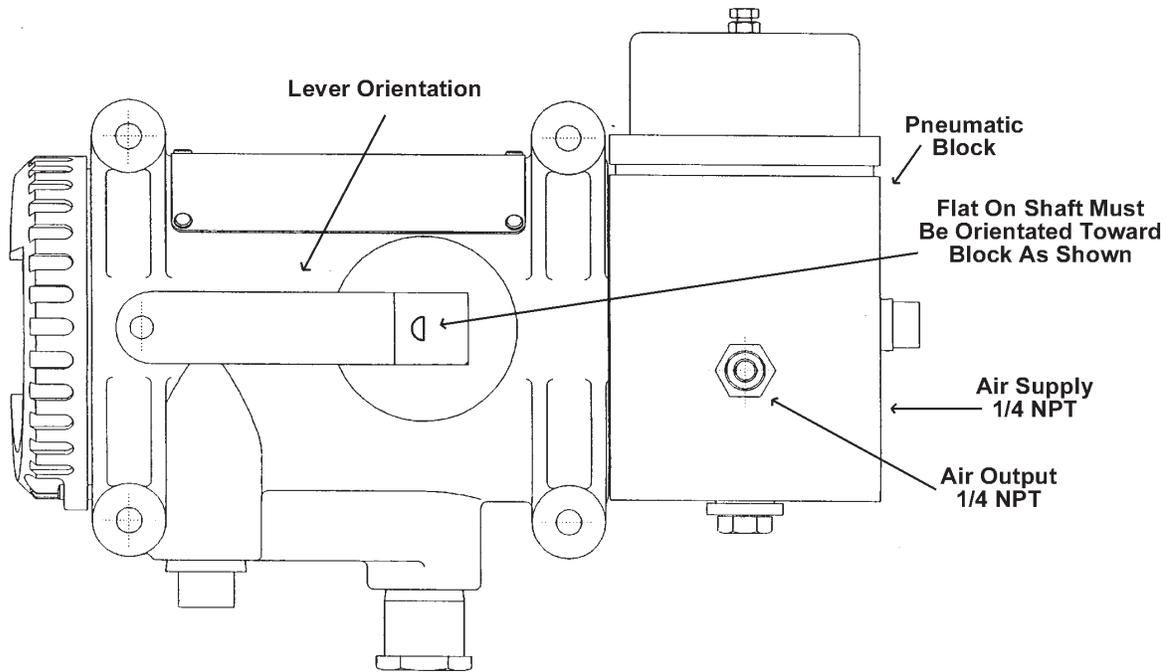
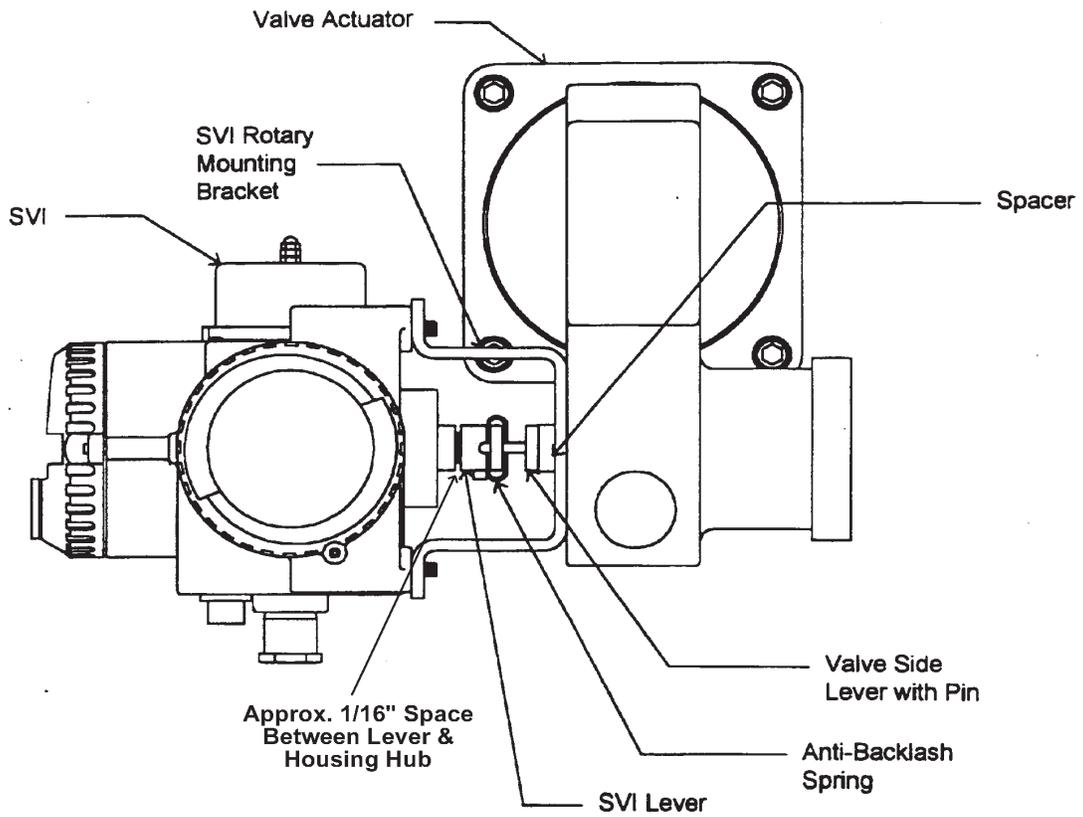
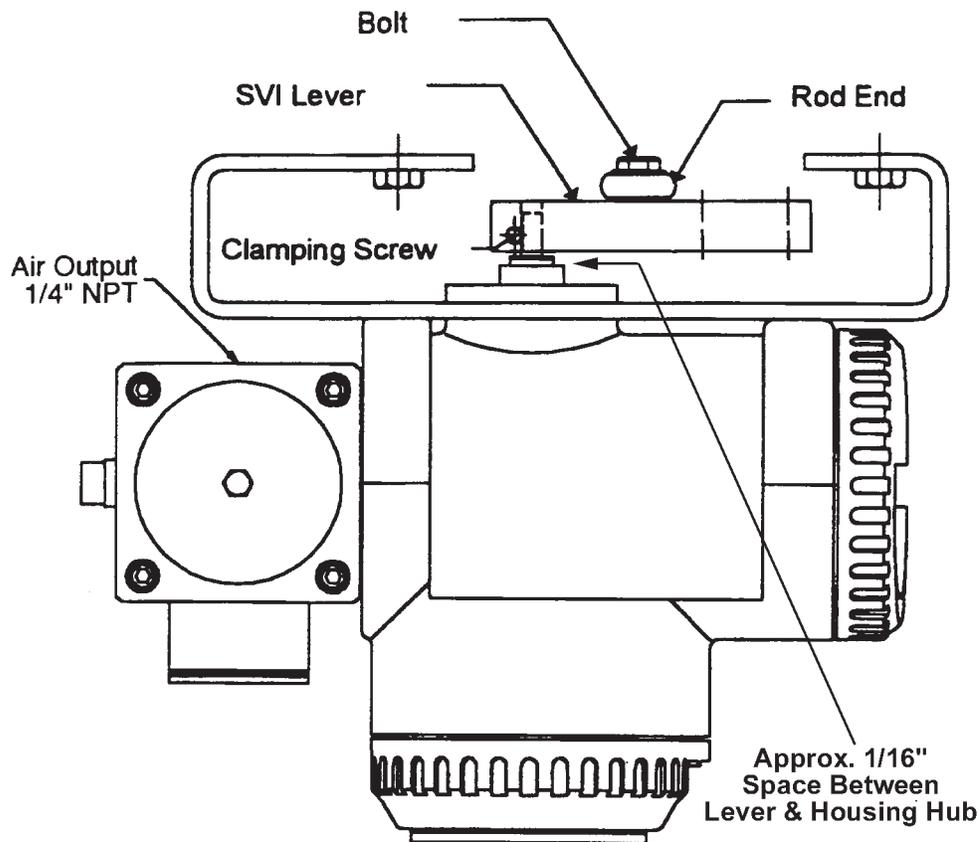

Figure 14. Orientation of SVI Lever and SVI Shaft
Figure 15. SVI Mounting on Rotary Valves
Figure 16. Top View of SVI Mounted on a Reciprocating Valve
3. Clamp the SVI lever to the SVI shaft. The flat on the SVI shaft must always face the pneumatic block with the lever orientated facing the cover as shown in Figure 14. When using a standard lever, the orientation of the lever to the SVI is set by clamping screw location relative to flat on shaft. Leave approximately 1/16 space the SVI housing and back of lever. See Figure 15.
4. Loosely assemble the SVI to the mounting bracket using only the two top 1/4 - 20 UNC socket-head cap screws. Pull the SVI away from the actuator to allow the pin on the valve side lever to be inserted into the slot in the SVI lever under the anti-backlash spring. See Figure 15. Assemble the two bottom bolts and securely tighten all four bolts.
1. Mount the SVI mounting bracket to the actuator using two (2) 5/16 - 18 UNC cap screws. Unless otherwise specified, the SVI mounting assumes that the actuator is in the normal upright position. The slotted opening of the mounting bracket is to be to the left when facing the actuator.
2. Clamp the SVI lever to the SVI shaft. The flat on the SVI shaft must always face the pneumatic block with the lever orientated facing the cover as shown in Figure 14. When using a standard lever, the orientation of the lever to the SVI is set by clamping screw location relative to flat on shaft. Leave approximately 1/16 inch space between the SVI housing and back of lever. See Figure 16.
To ensure that the SVI position feedback performs correctly, the plane of the flat on the SVI shaft must be vertical and facing the pneumatic block of the SVI when the valve is at mid travel. The lever must point away from the pneumatic block. See Figure 14.